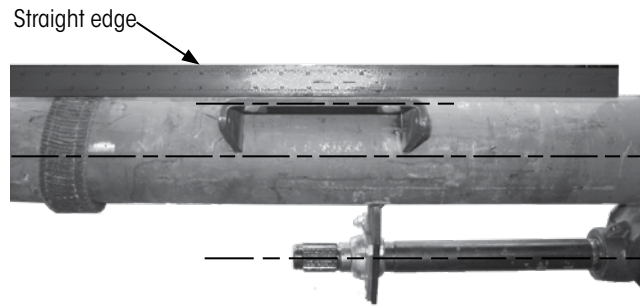

Figure 11: Brake chamber brackets must be parallel to axle tube
7. **Position** the brake chamber bracket so its mounting surface is parallel to the other brake chamber bracket on the opposite end of the axle tube (Figure 11). If possible, lay a straight edge across the brake chamber bracket to **check** parallelism to the other bracket or to the axle tube. **Make any adjustments prior to final weld.**